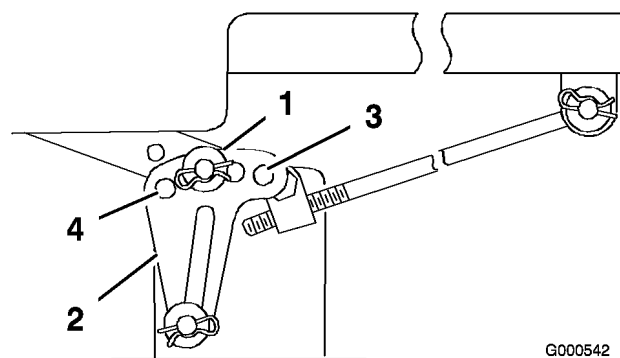
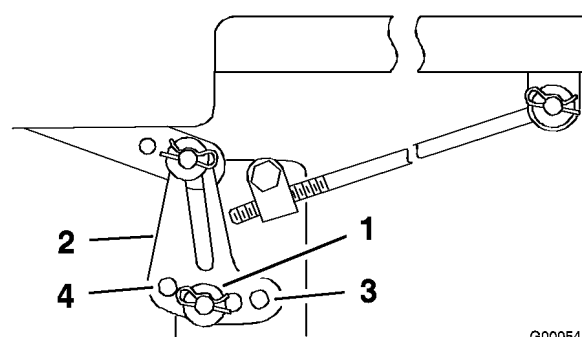

Figure 42
Figure 43
6. Remove the hairpin cotter and washer from the leveling bracket (Figure 42).
7. To level the blade(s), reposition the leveling bracket(s) in a different hole and install the washer and hairpin cotter. (Figure 42 and Figure 43). A front hole lowers the blade height and a rear hole raises its height. Adjust both sides as required.